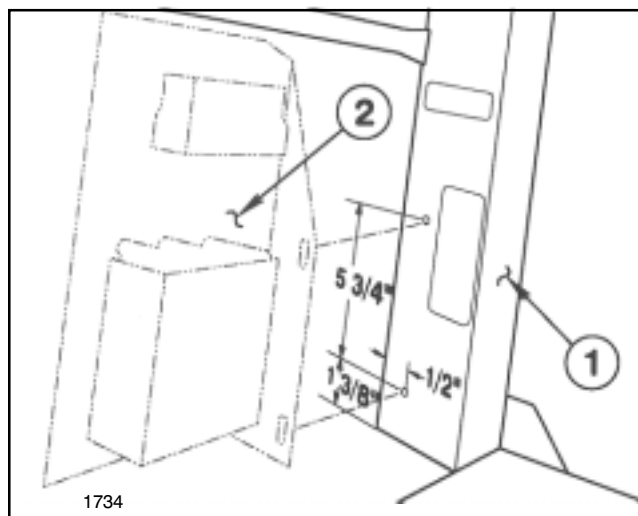

FIG. 20
1. Remove fifteen (15) screws and washers securing the Front Panel to Vehicle frame and remove Front Panel.
2. Locate and drill two (2) 3/8" holes in right Upright Post. See FIG. 20.